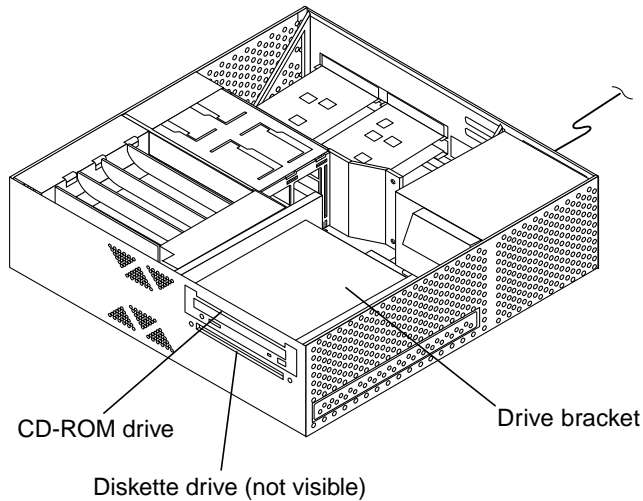

FIGURE 2-9 Drive bracket and drives
1. Remove the screws securing the drive bracket to the chassis (FIGURE 2-9).